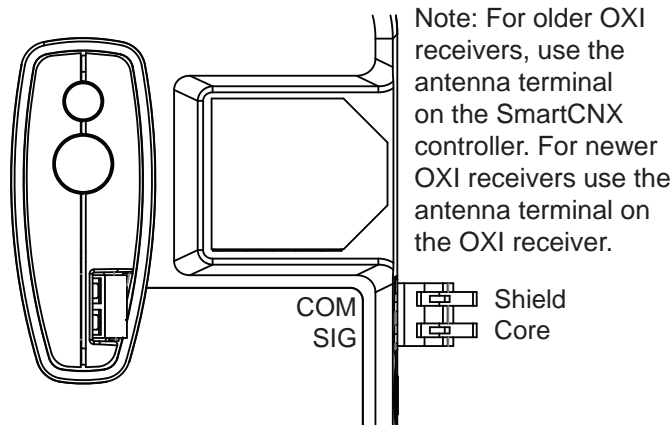

Figure 62. OXI Antenna Terminal
3. Install a whip or coaxial antenna into the OXI antenna terminal for better range (Figure 62). Mount any external antenna onto the top of a fixed fence post near the operator.